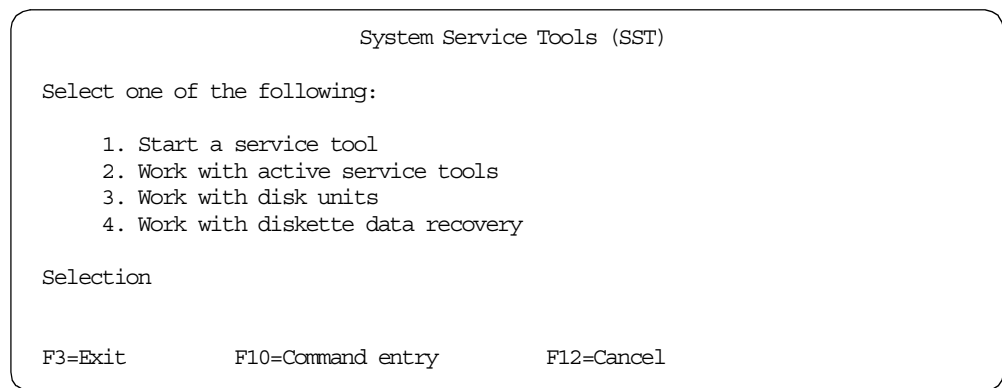

Figure 402. System Service Tools (SST) display: Main menu
1. Issue the STRSST command. The display shown in Figure 402 appears.